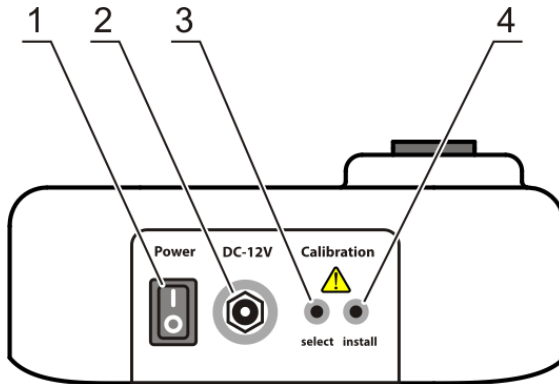

Figure 3. Back view
- Connect the external power supply unit into the socket at the rear side of the unit (fig. 3/2) and position the unit for an easy access to the external power supply and the power switch.
5.2 Connect the external power supply to electric circuit. Switch on the unit using the **Power** switch (fig. 3/1) on the rear panel.
- 6.4 Connect the external power supply to electric circuit. Switch on the unit using the **Power** switch (fig. 3/1) on the rear panel.
- 6.5 Press the **Select** button (fig. 3/3) on the rear of the unit.
- 6.6.1 **Empty socket.** Display shows $-. -$ indication. Press **Install** button (fig. 3/4) to save empty socket value. Display shows next required calibration value.